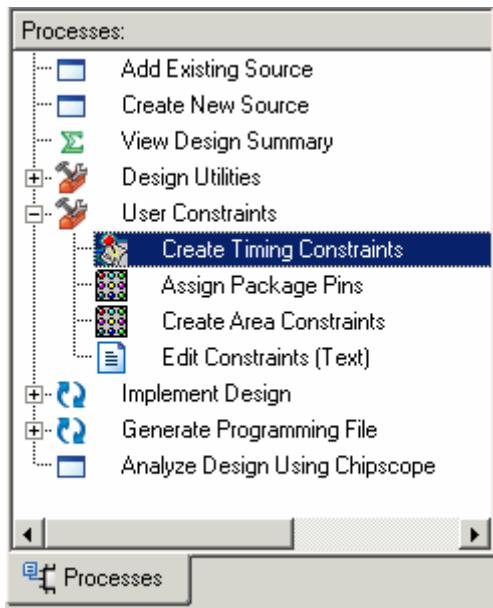

Figure 2d-3. Processes for Source Window
- ① In the Sources for: window, select the top-level design file *ch_fifo.ngc*
- ② In the Processes window, expand **User Constraints** and double-click **Create Timing Constraints** (Figure 2d-3)